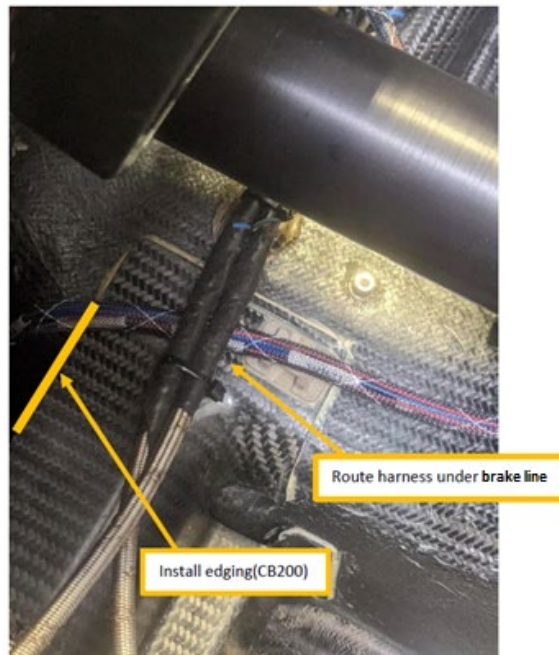

Figure 13. Harness routing and edging
14. (1.0 config only) Install edging (MS21266-1N Grommet Edging)) with CB200 at location shown in **Figure 13** and route harness as shown.